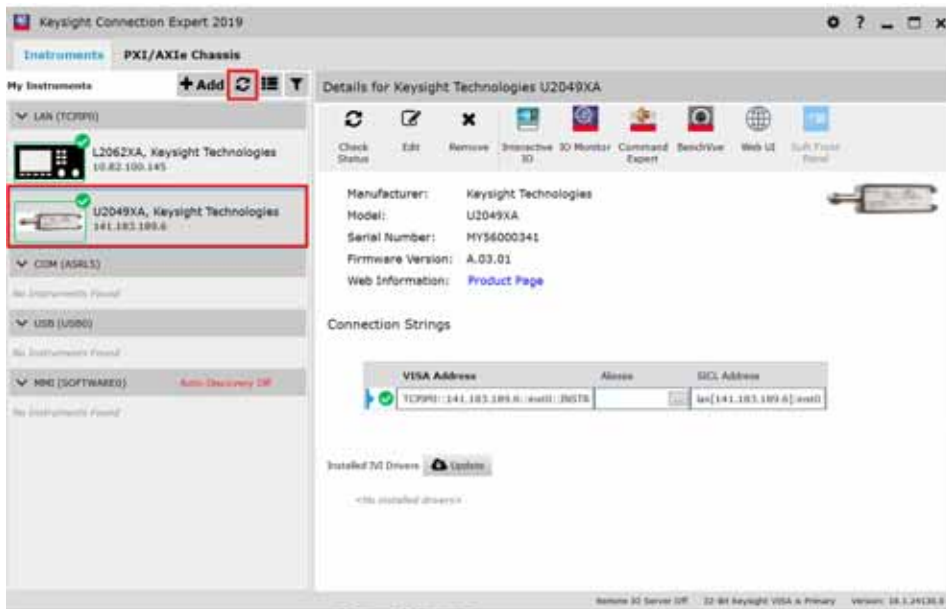

Figure 1-5 Auto-locate a USB instrument in Keysight Connection Expert
- 2 Go to **Start > All Programs > IO Control** () to launch Keysight Connection Expert. Click **Start a Scan for connected instruments** to auto-locate the sensor as shown in **Figure 1-5**.